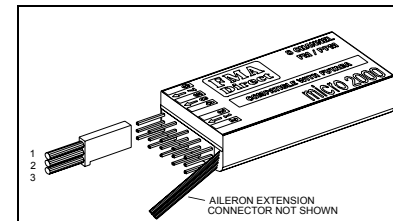

FIGURE 1
3. When hooking up servos to your receiver, use the compatible servo types as listed in TABLE 1. Use TABLE 2 and FIGURE 1 to check its plug wire color orientation. Note: with the receiver sitting label side up, the signal lead (marked #3 in FIGURE 1 and color coded as in TABLE 2) must match up to the pin farthest from the label side of the receiver. No damage will occur by plugging a servo in backwards, but the servo will not operate. You may mix and match Futaba and JR servos, but neither may be used in combination with Airtronics servos - see warning below. Your Micro 2000 comes standard as six channels including one pigtail for aileron on CH 1 (Futaba model) or CH 2 (JR or Airtronics models). You may elect to purchase the upgrade to 8 Channels through FMA Direct or your local FMA Direct dealer which will include 2 additional pigtailed for Channels 7 and 8. When hooking up power to your receiver, you may either connect a nicad battery pack to any unused channel input or splice a female battery connector into the plus and ground wires of any incoming servo leads. Splicers are also available through your local hobby dealer.